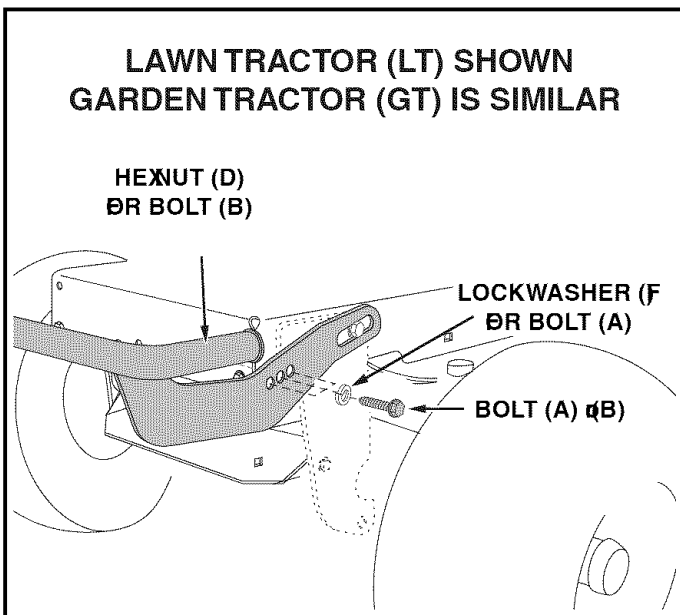

FIGURE 4
STEP 4: (SEE FIGURE 4)
- The bumper has three mounting holes. The rear hole provides the most clearance while the forward holes provide a neater appearance. Use a hole that provides enough clearance for hood to stay in raised position when opened. Attach the bumper using either standard hex bolts (B) and hex nuts (D) or self threading bolts (A) and lock washers (F). Use the self threading bolts (A) if standard hex bolts (B) do not insert freely into the hole in the tractor frame.